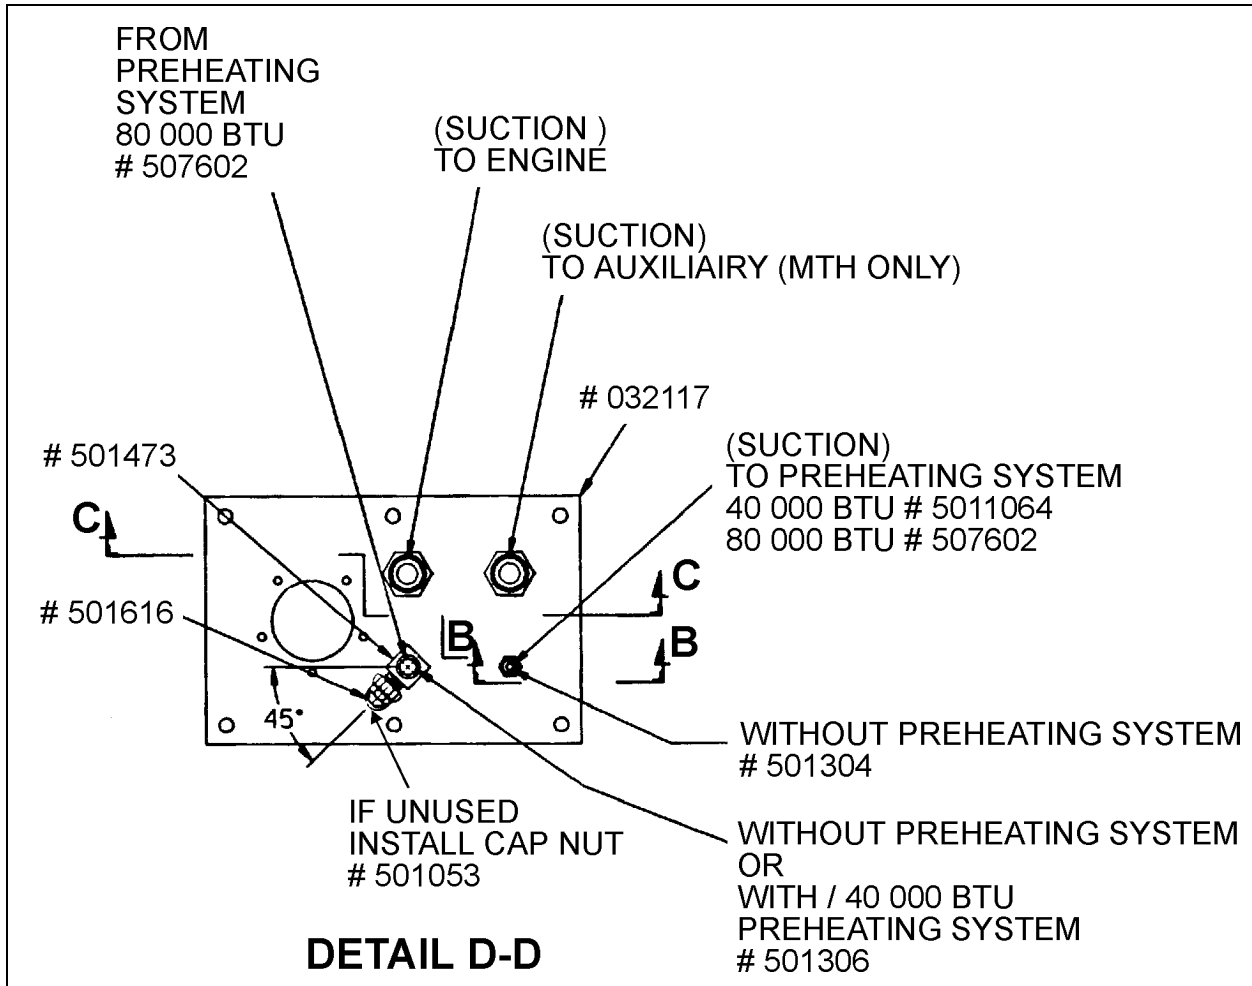

FIGURE 5
- Where applicable, install the following adapters on fuel tank control panel : preheater supply line, auxiliary return line (Fig. 5).
- If applicable, assemble preheater supply line, preheater return line, auxiliary supply line and/or auxiliary return line to fuel tank control panel (Fig. 5).
- Install plug on "from (Prévost # 501306) and to (Prévost # 501304) preheating system" port (Fig. 5).
- Install plug (Prévost # 501306) on "from preheating system" port (Fig. 5).